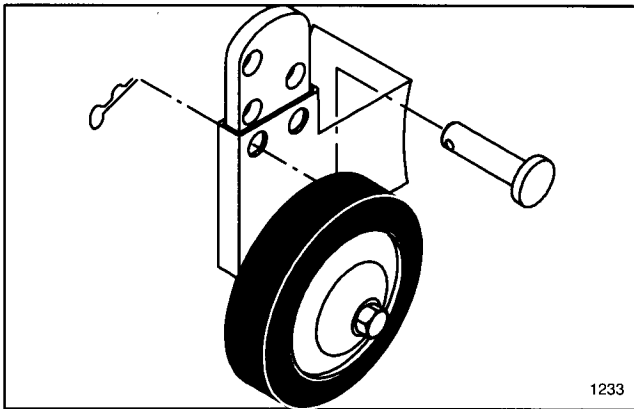

Figure 8
With machine on a level surface and height-of-cut in desired position, gage wheels are to be positioned so it is approximately 3/8" (10 mm) above the ground (Fig. 8).
1. Remove hair pin cotter and clevis pin securing gage wheel to cutting deck (Fig. 8).
2. Move gage wheel up or down to desired setting and install clevis pin and hair pin cotter (Fig. 8).